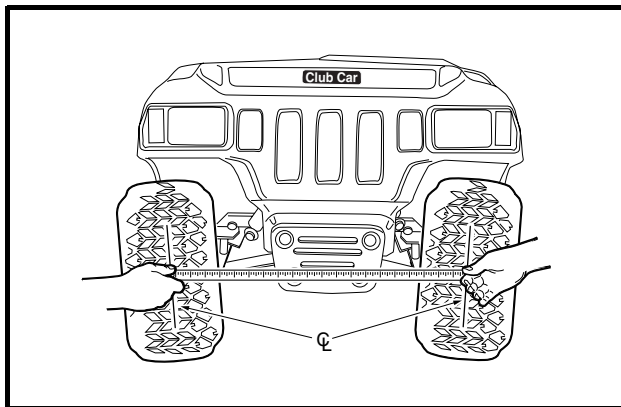

Figure 7-17 Check Toe-In
3. Measure the distance between the marks on the rear-facing surfaces of the tires, and then roll the vehicle **forward** one and one-half wheel revolutions until the marks appear on the forward facing surfaces of the tires at about the same height from the floor (**Figure 7-17, Page 7-14**).
4. Measure the distance between the marks on the forward-facing surfaces of the tires (**Figure 7-17, Page 7-14**). **See following NOTE.**